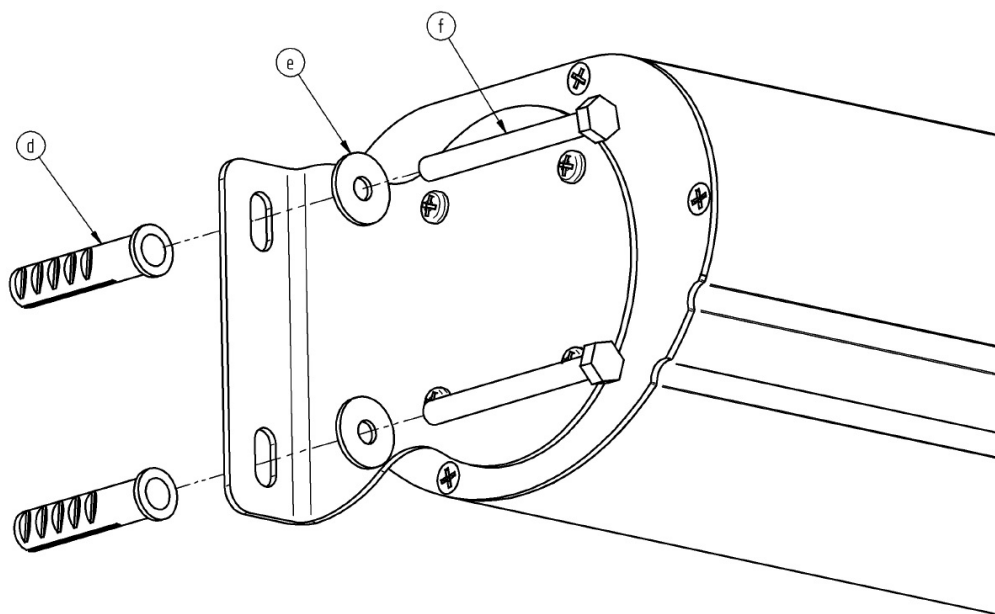
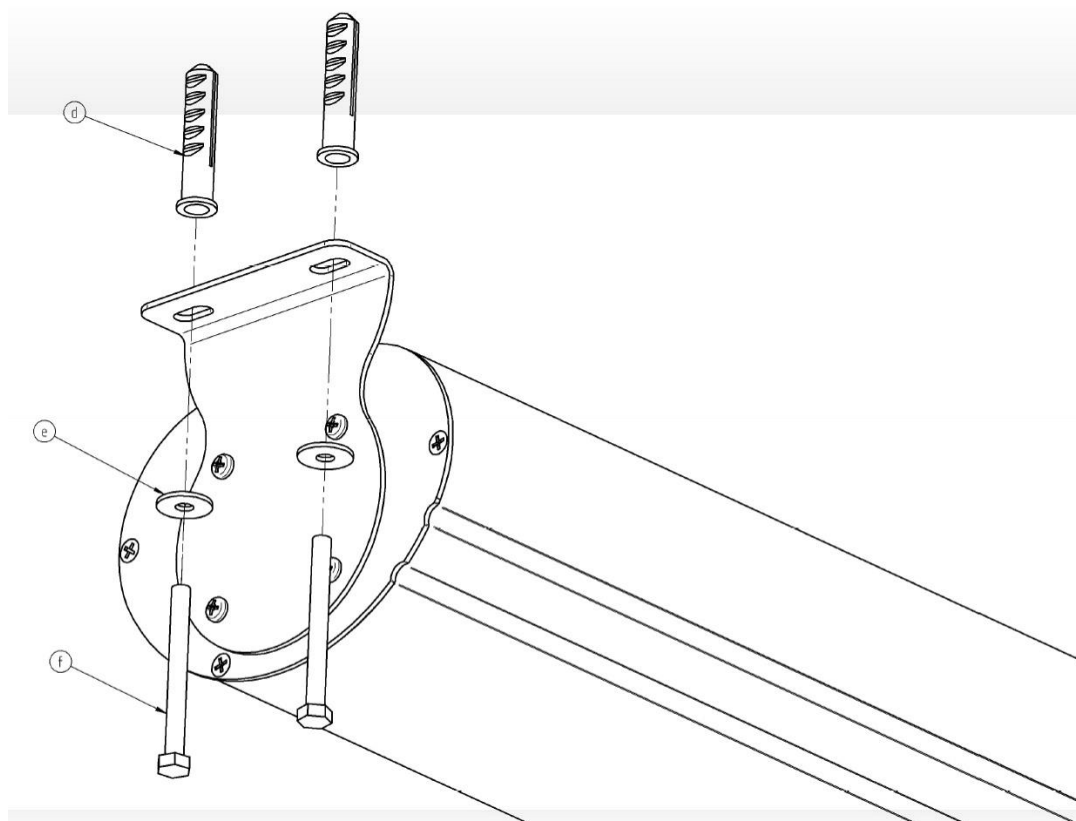

Fig.2a
Fig.2b
- Depending on the method of mounting, screw the mounting brackets using the mounting dowels to the wall (Fig.2a) or to the ceiling (Fig.2b).